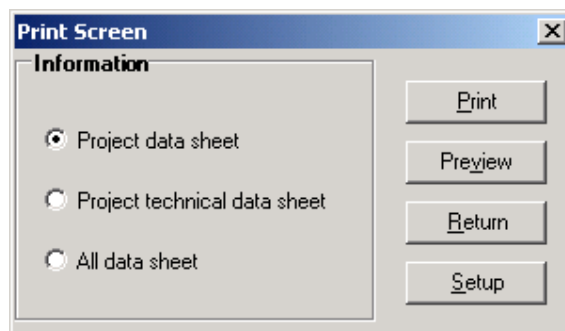

Figure 46. *Print display*
2. Select the items to be moved to Excel. You can print a project data sheet, a project technical data sheet or all data sheets for a project (see Figure 46).